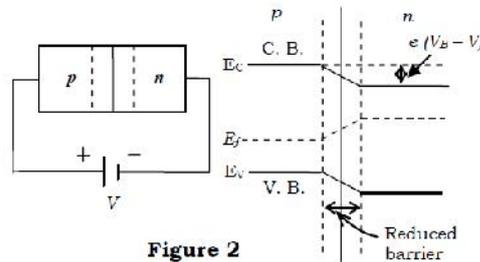

Figure 2
**Forward Bias:** When a dc source is connected across the diode such that the positive terminal is connected to  $p$ -region and negative terminal is connected to  $n$ -region then the diode is said to be in forward bias as shown in figure 2.
As the forward bias leads to increase the energy of electrons in  $n$ -region of the crystal the Fermi-level on  $n$ -side is raised by energy equal to  $eV$ . Where  $V$  is applied d.c. voltage. The bands adjust their positions to suite the elevation of the Fermi-level as shown in figure 2.